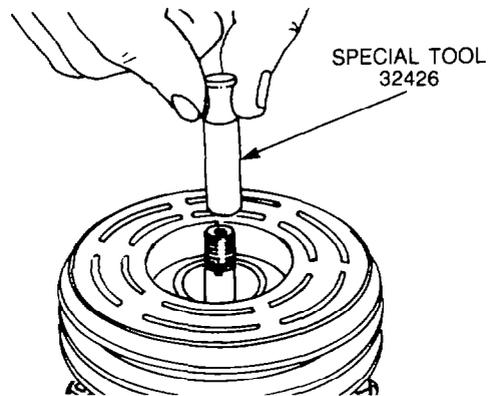

Figure 33 — Shaft Protector Tool — Installation
- c. Invert the compressor housing, clutch side up and secure by the mounting ears in a vice, then install special tool 32426 over the protruding end of the compressor shaft (see Fig. 33).